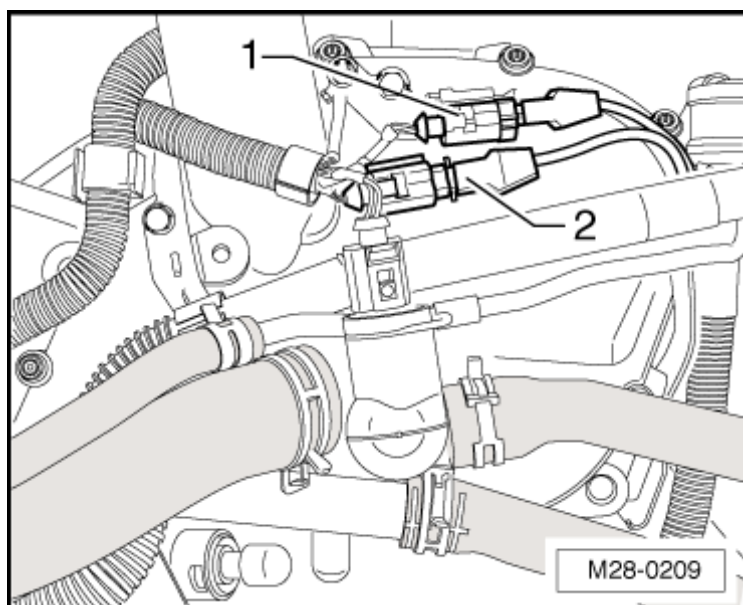

Fig. 8: Identifying Installation Position Of Harness Connectors For Knock Sensors
- Installed location, refer to **Fig. 8**.